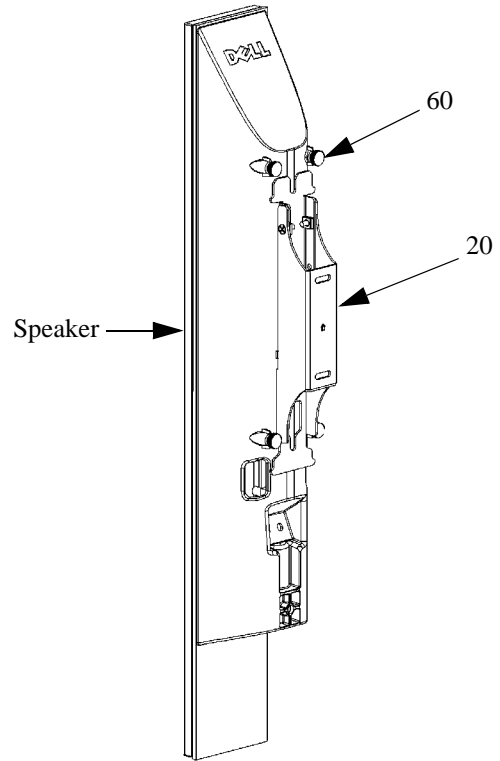

Figure 15. Loosen Four Thumb Screws to Remove Speaker
1. While holding the speaker with one hand, loosen the four thumb screws (60) that attach the speaker to the wall bracket (20). See Figure 15.